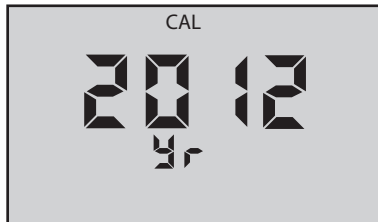

Figure 13
3. Press $\frac{\text{CAL}}{\text{MCLR}}$ to initiate. “CAL” will be displayed along with the YEAR (see Figure 13).